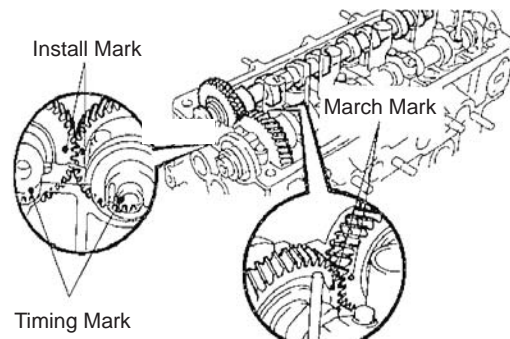

Figure 16
- (2) Align the matchmark on each gear to engage intake camshaft gear and exhaust camshaft gear. See (Figure 16).
- (3) When the gears are engaged, install the intake camshaft bearing onto bearing journal.